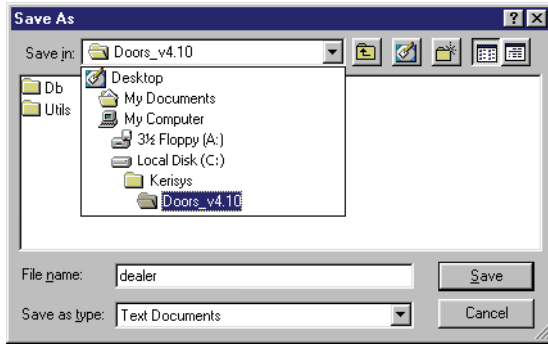

Figure 1-3: Save As Window
3. Locate the folder where the *Doors*.EXE program file is located (typically found in the “Kerisys\Doors_vX.XX” folder). In the File Name field, type “dealer” and make sure the Save As Type field has “Text Documents” selected (see Figure 1-3).